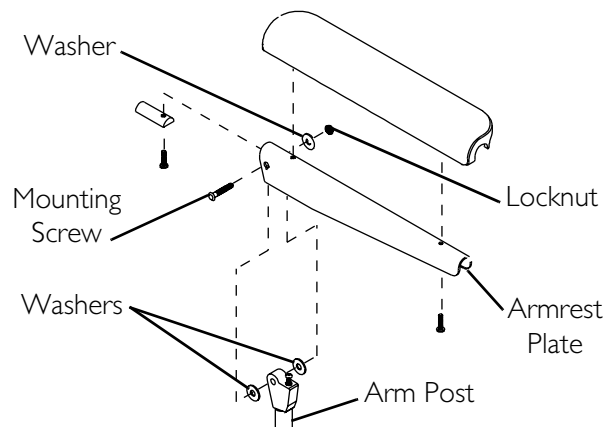

FIGURE 5.4 Replacing Van Seat Armrest Plate (Wheelchairs Built before October 2003)
NOTE: For this procedure, refer to FIGURE 5.4 on page 57.
4. Position the new armrest plate on the armrest post and secure with the mounting screw, washers, and locknut. Refer to FIGURE 5.4 for correct hardware orientation.
3. Position the new armrest pad assembly on the armrest post and secure with the mounting screw, washers, and locknut. Refer to FIGURE 5.4 for correct hardware orientation.